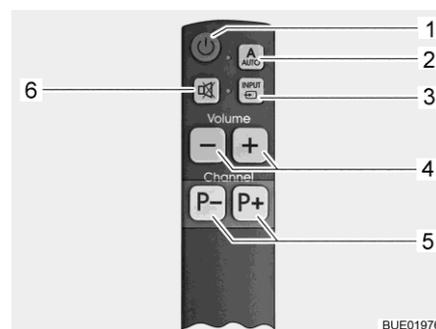

Fig. 43 Simplified remote control (optional)
- Press the AUTO button (Fig. 42,2 or Fig. 43,2) for 1 second. Thus, the television and the advance unit are switched on.
- Press the programme selection buttons (Fig. 42,4 or Fig. 43,5) until the desired TV programme has been selected.
- Press the INPUT button (Fig. 42,3 or Fig. 43,3) repeatedly until the desired signal source has been selected.
- To return to the satellite channels display, press the INPUT button (Fig. 42,3 or Fig. 43,3) repeatedly until the signal source DVB-S2 has been selected.
- Press the AUTO button (Fig. 42,2 or Fig. 43,2).
- Press the Television on/off button (Fig. 42,1 or Fig. 43,1). The advance unit is not switched on, the antenna remains in parking position.
- Press the INPUT button (Fig. 42,3 or Fig. 43,3) repeatedly until the desired signal source (e.g. DVD) has been selected.
- Press the Television on/off button (Fig. 42,1 or Fig. 43,1) to switch the television off.